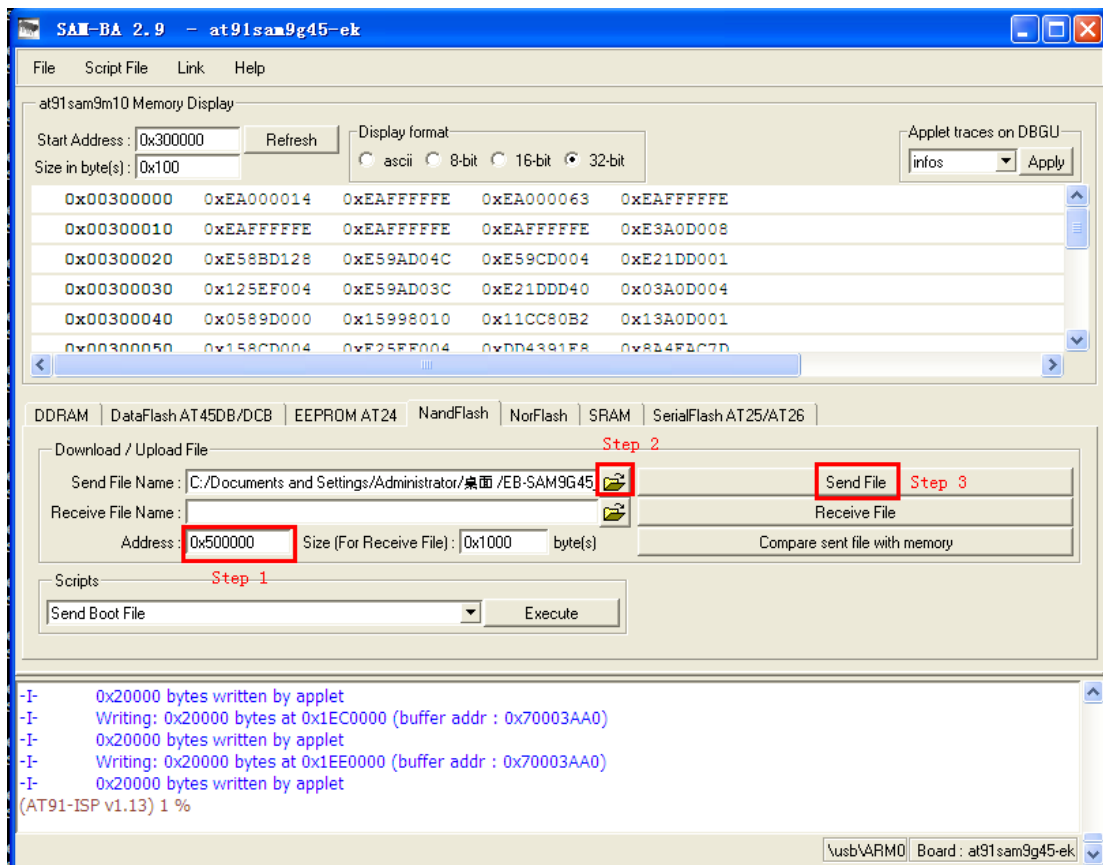

Figure 4-11
(8) Download Andstrom-x11-image-demo-glibc-at91.rootfs.jffs2 to 0x500000. Refer to figure 4-11: